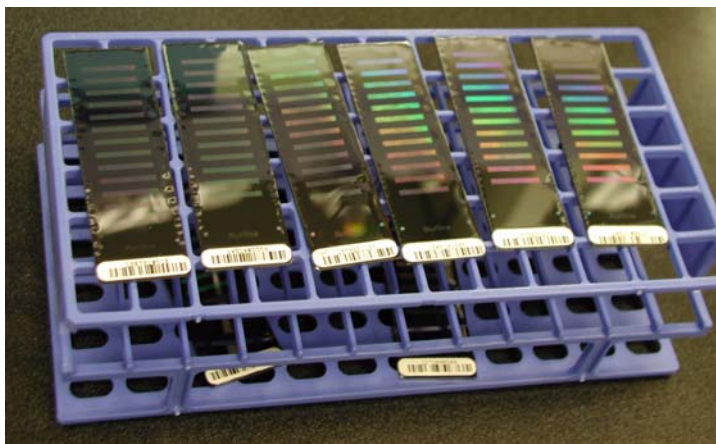

Figure 160 BeadChips on Tube Rack
- a. Place the tube rack with the first 8 BeadChips (Figure 160) into the desiccator. Check the vacuum pressure and make sure that the valve is securely attached.
- Put the eight BeadChips on the tube rack as shown in Figure 160, with six BeadChips on top of the rack and two BeadChips on the bottom. The barcode ends should be towards you, and the BeadChips should be completely horizontal.
28. Place BeadChips on the tube rack (Figure 160) until there are six BeadChips on top of the rack and two BeadChips on the bottom. The barcode ends should be towards you, and the BeadChips should be completely horizontal.
- a. Place the tube rack with the second set of 8 BeadChips (Figure 160) into the desiccator. Check the vacuum pressure and make sure that the valve is securely attached.
- b. Place BeadChips on the tube rack as shown in Figure 160 until there are six BeadChips on top of the rack and two BeadChips on the bottom. The barcode ends should be towards you, and the BeadChips should be completely horizontal.
- a. Place the tube rack with the **third set of 8 BeadChips** (Figure 160) into the desiccator. Check the vacuum pressure and make sure that the valve is securely attached.